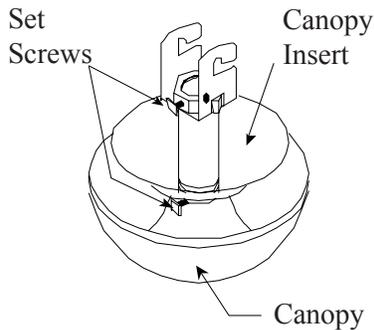

Figure 5
2. Back out the set screw in the neck of the motor housing and the hanger bracket so the pipe can be screwed in. Screw the pipe into the fan until tight (at least 4-1/2 turns). Feed the wire through the canopy and the canopy insert and let the canopy rest on the neck of the motor. Slide the canopy insert over the pipe. Feed the wire through the hanger bracket and screw the hanger bracket onto the pipe until tight (at least 3 turns). Then use pliers to tighten both the hanger bracket and the pipe together. Tighten the set screw in the motor housing with pliers. Securely tighten the set screw in the hanger bracket. See Figure 5.